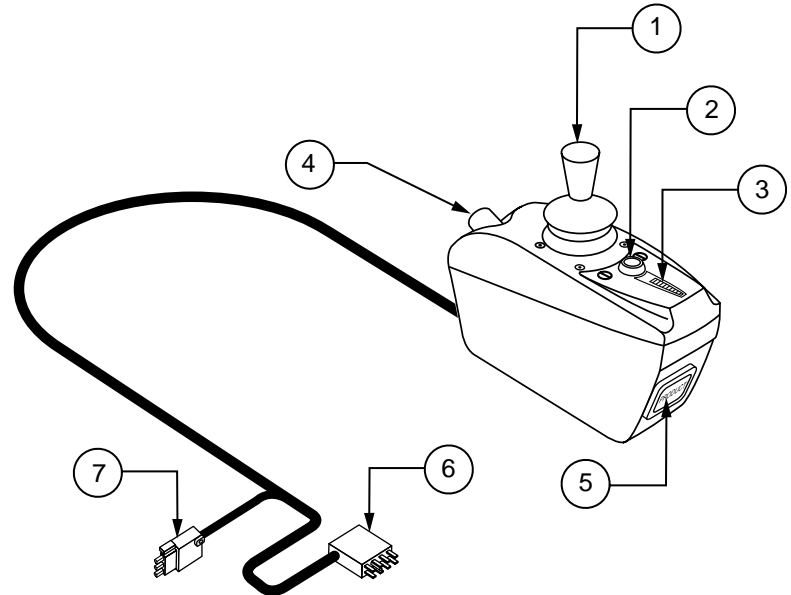

Figure 19. Pilot Controller
3. Plug the off-board charger into the off-board charger socket. See figures 19, 20, and 22.
The Pilot electronic controller is an integral electronic controller. All of the electronics necessary to operate the power chair are contained in one module. See figure 19.